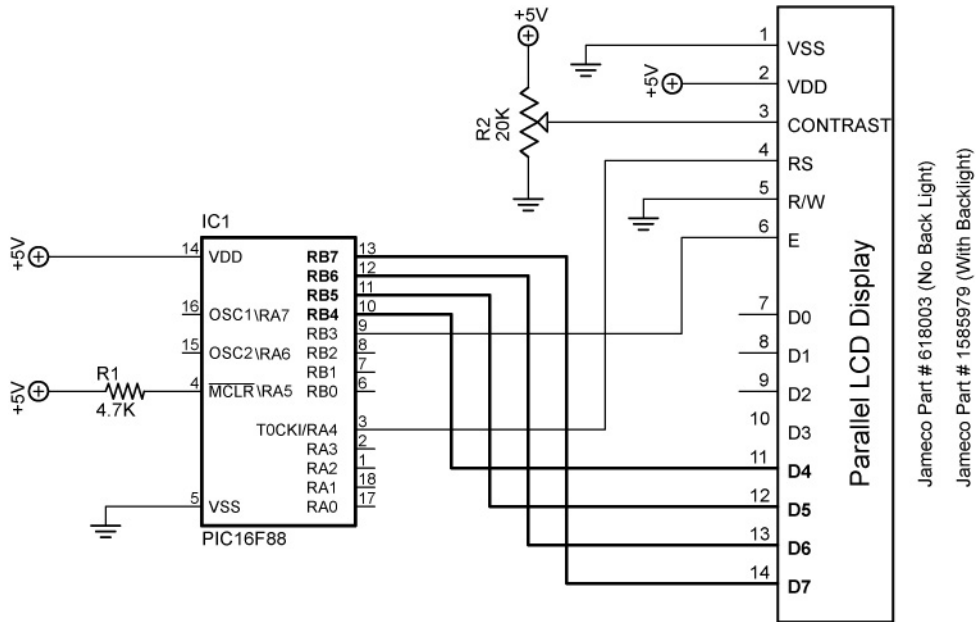

Figure 3, Revised Data Port Connections
- The schematic in Figure 3 shows relocated the data port connections: